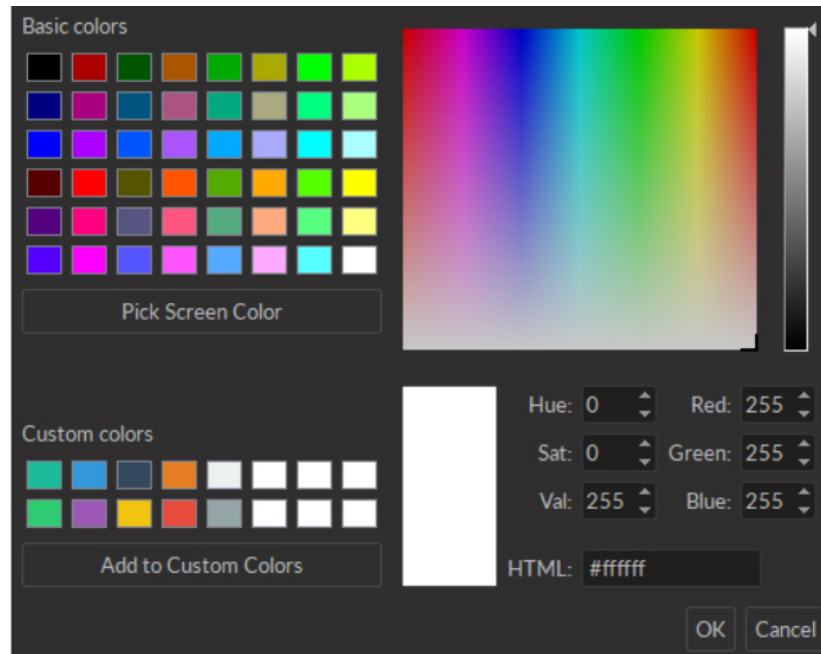

Figure 3.37: Select Color Window
- The **Trace Color** button (...) opens the **Color Select** window (Fig. 3.37), which allows the selection of a trace color from a wide palette. The **Pick screen color** in this window allows the selection of any color displayed on the computer screen.